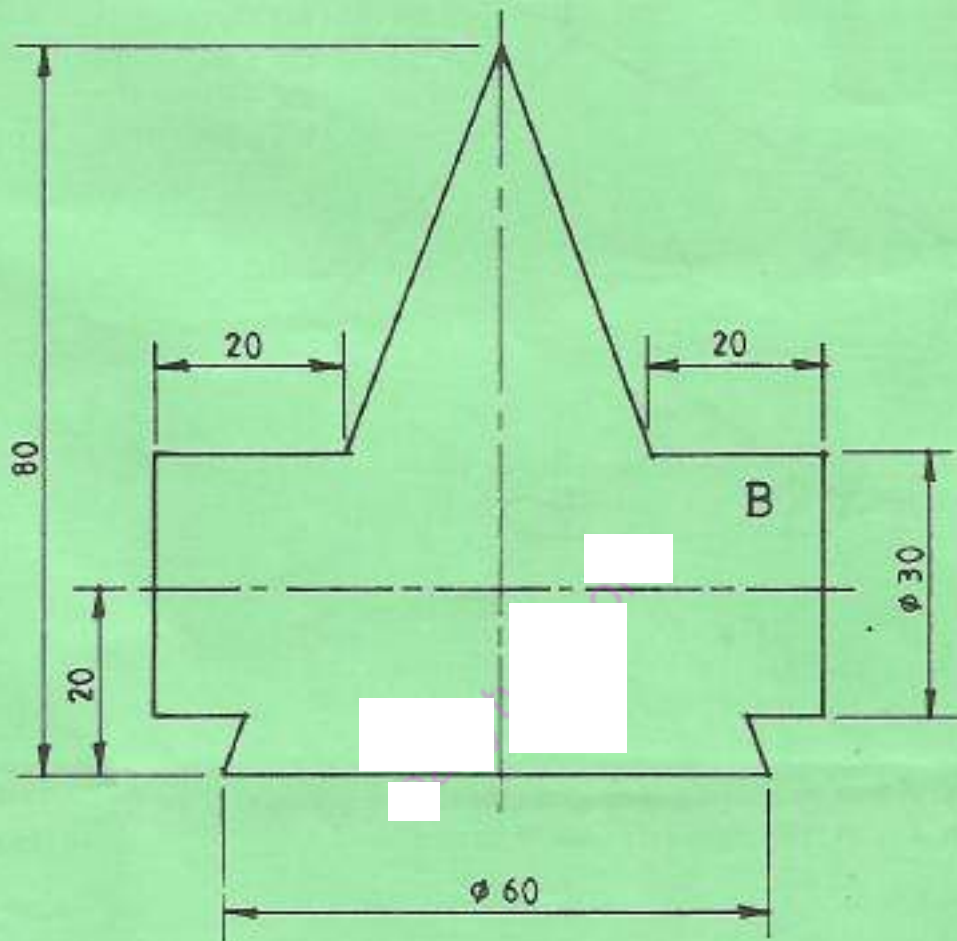

Fig. 3
4. Figure 3 shows a cone intersected diametrically by two pipes of equal diameter, on both sides. Copy the given view and: